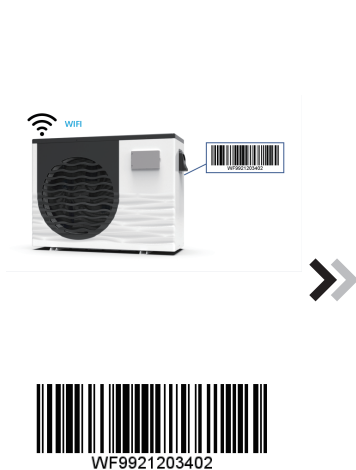

Fig.16 WF barcode
5. Click "OK" (Fig.15) to allow the App to use the camera for scanning the **WF barcode** on the heat pump unit (Fig.16);